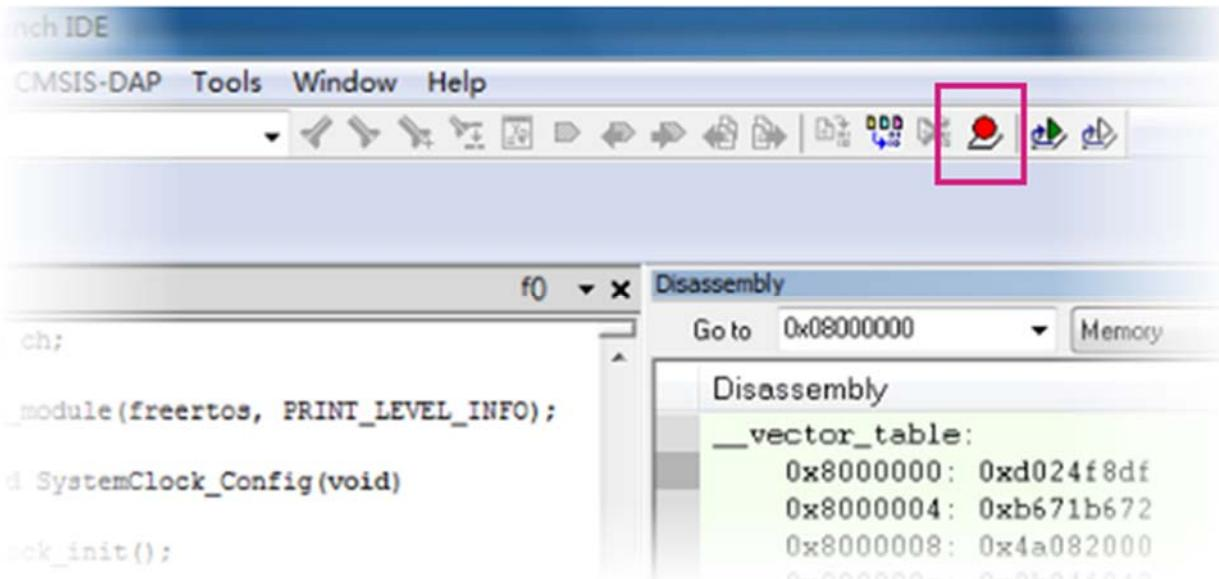

Figure 66. Debugging a project on IAR
- 6) Click **Debug** to start debugging, as shown in Figure 66.